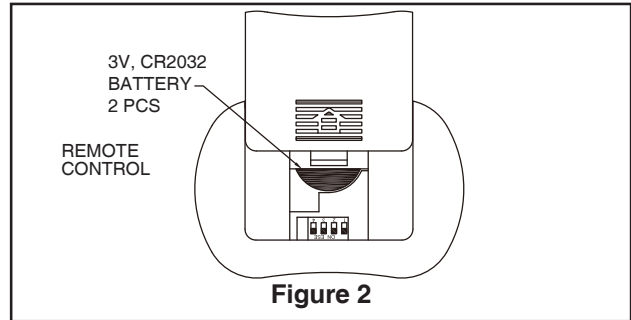

Figure 2
- ☐ 2. To make fan operational, install two 3-volt batteries (included) in the hand-held remote transmitter. If not using for long periods of time, remove battery to prevent damage to transmitter. Store the remote away from excessive heat or humidity. (Figure 2)
(Including in the control).(Figure 2)